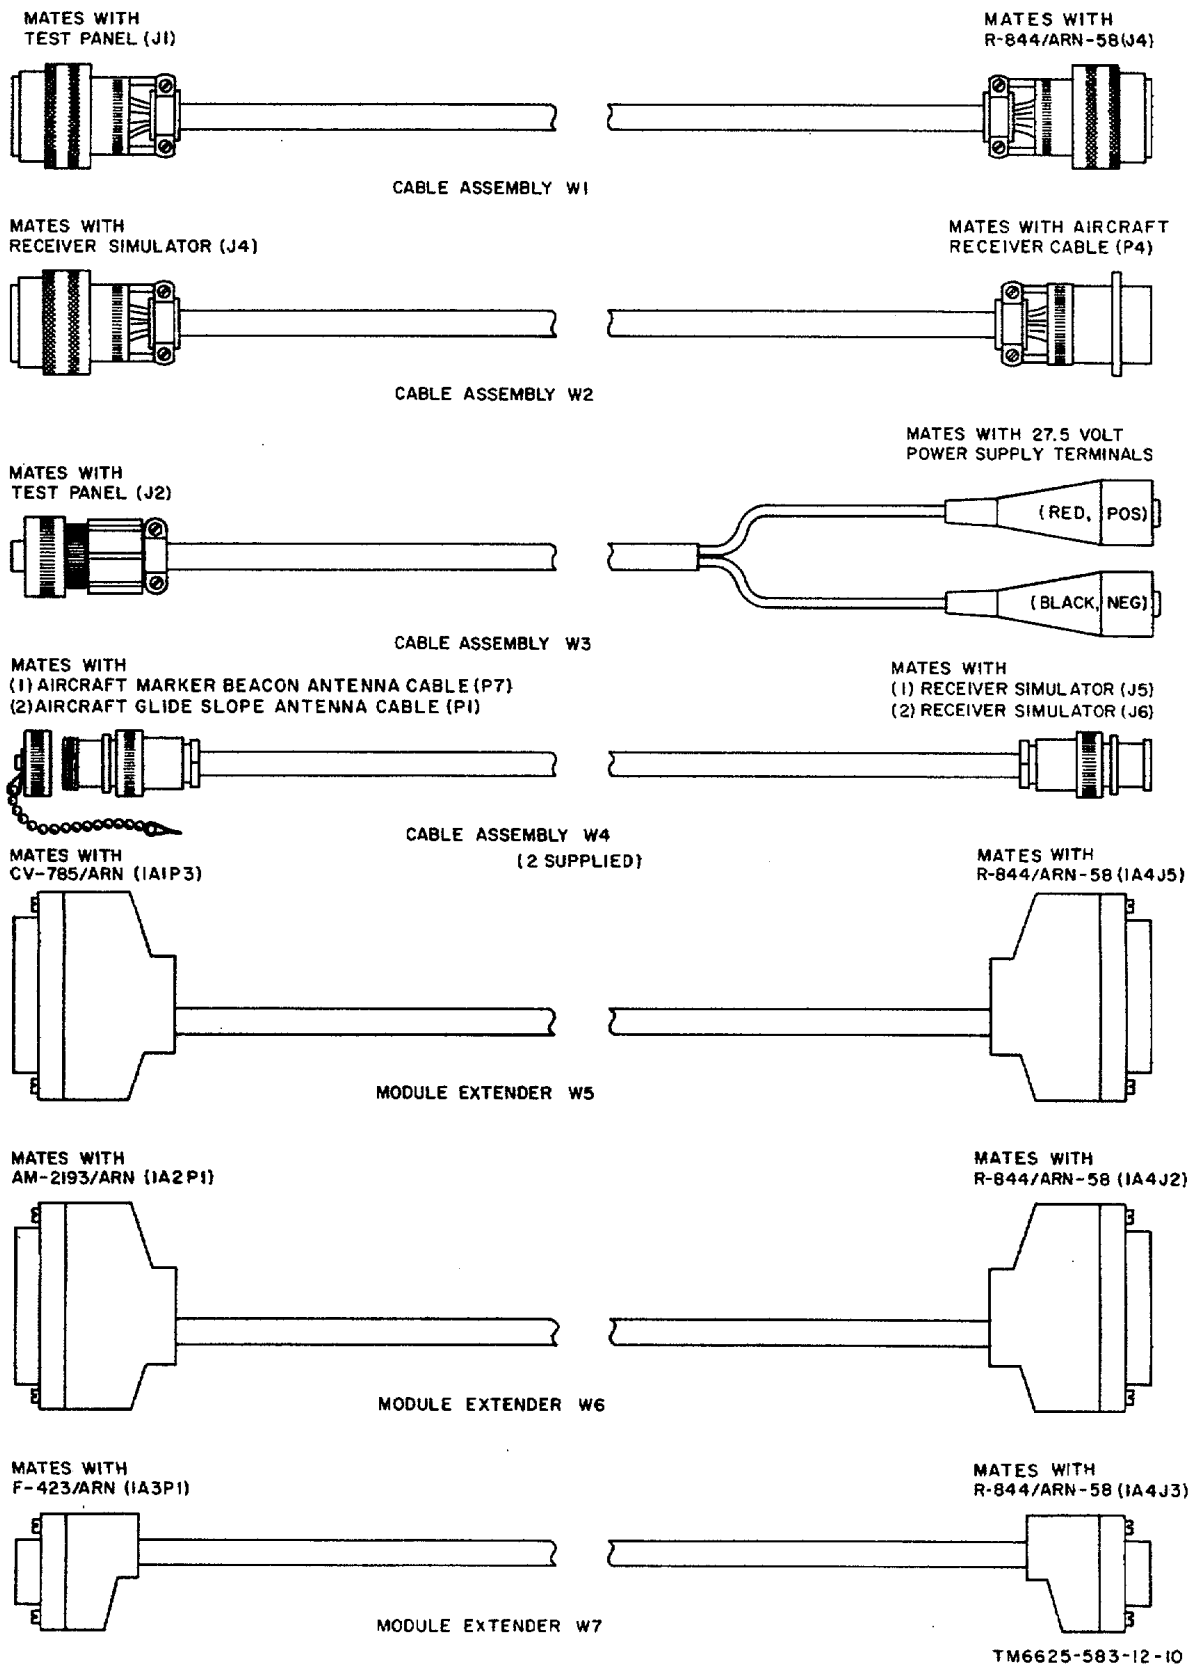

Figure 2. Cables W1 through W4, and module extenders W5, W6, and W7.
*b. Cables and Module Extenders (fig. 2).* Five cables (W1 through W4) and three module extenders (W5, W6, and W7) are provided with the AN/ARM-71. The cables and module extenders are banded with the "W" numbers.
- (1) *Cable W1.* Twenty-two-conductor vinyl-covered cable, 5 feet long, with a Bendix Scintilla PT06SE (SR)-16-26S connector on each end.
- (2) *Cable W2.* Twenty-two-conductor vinyl-covered cable, 5 feet long, with a Bendix Scintilla PT01SE (SR)-16-26P connector on one end and a Bendix Scintilla PT06SE (SR)16-26S connector on the other end.
- (3) *Cable W3.* Two-conductor rubber covered cable, 5 feet long, with an MS3106E 10SL-3S connector on one end and two battery clips on the other end.